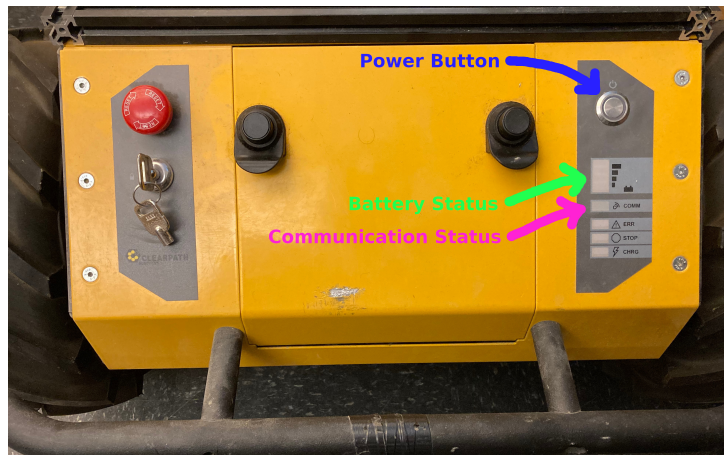

Figure 2: View of Husky status indicator lights on back panel.
1. **Power on the Husky, *cpr-conu1*, and *arl-thinkpad*.** After a few seconds the *communication status* light should turn green (marked in pink in Fig. 2) Because of Husky's launch-on-boot feature, `roscore` will be initialized in the background. You can run `$ roscore list` to see the nodes that are already up and running. Note that the `/imu/data` node is a Husky internal node and is not the node used for reading VectorNav data.